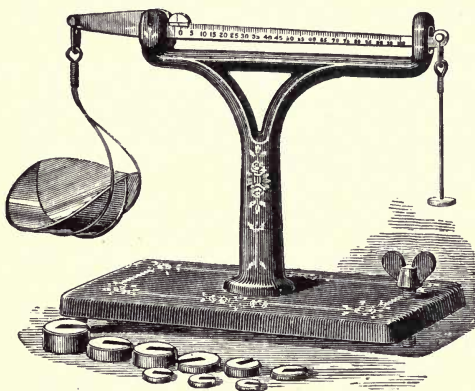

FIG. 7.—Weighing Scales.
*The weight of a body is the measure of the force attracting it towards the center of the earth.* Figure 7 illustrates the principle of ordinary weighing scales.